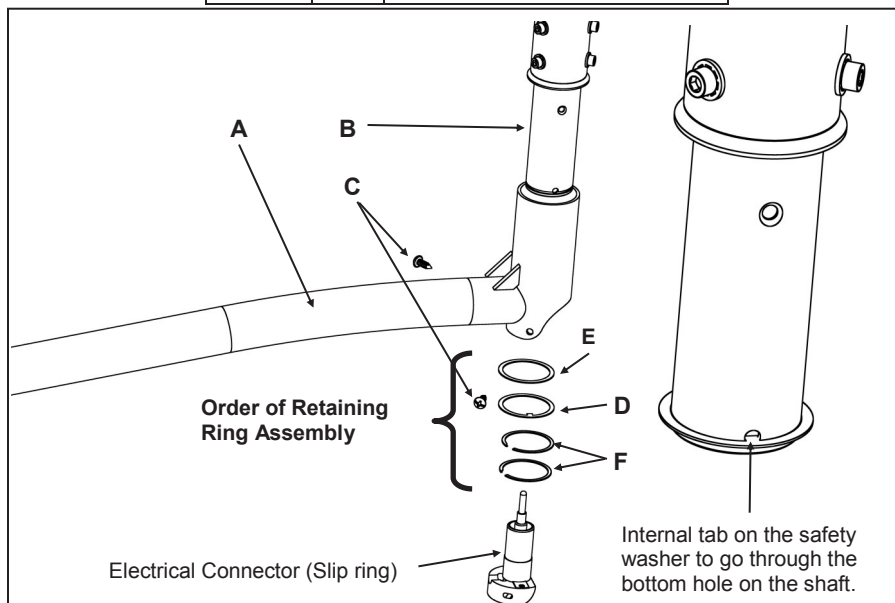

Figure 44: Extension/Spring Arm assembly.
5. Remove the 2 x Retaining Rings, 1 x Safety Washer and 1 x Retaining Ring Washer from the arm's hardware kit, refer to Figure 44 (D, E and F).
- Install the retaining ring washer, then install the safety washer with the notch facing into the hole, and finally snap the two retaining rings into the groove. Refer to Figure 44.
WARNING: It is critical that the retaining rings and washers be installed in given order per Step 6 and Figure 44. Disregarding this instruction can present the risk of serious or fatal injury.